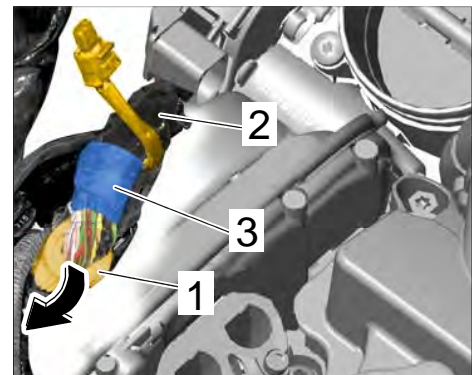

Figure 2
3.2 Pull back sleeve ⇒ *Figure 2 -item 1-* on the main wire harness ⇒ *Figure 2 -item 2-* (⇒ *Figure 2 -arrow-*) and expose the main wire harness wires.
3.3 Remove binding tape ⇒ *Figure 2 -item 3-* from around the main wire harness ⇒ *Figure 2 -item 2-*.